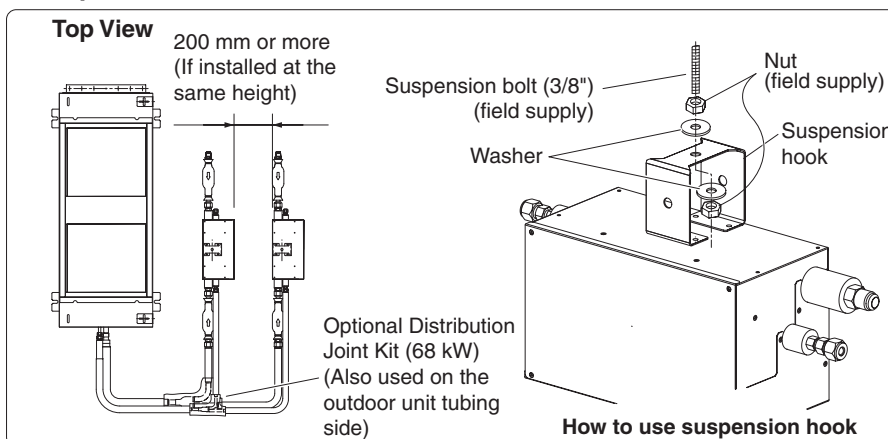

Fig. 2-277
For 22.4 kW (8 hp) and 28 kW (10 hp) units, use 2 RAP valve kits connected in parallel. (Refer to Fig. 2-277)
- Install the valve body within **a distance of 30 m from the indoor unit** as shown in Fig. 2-277.